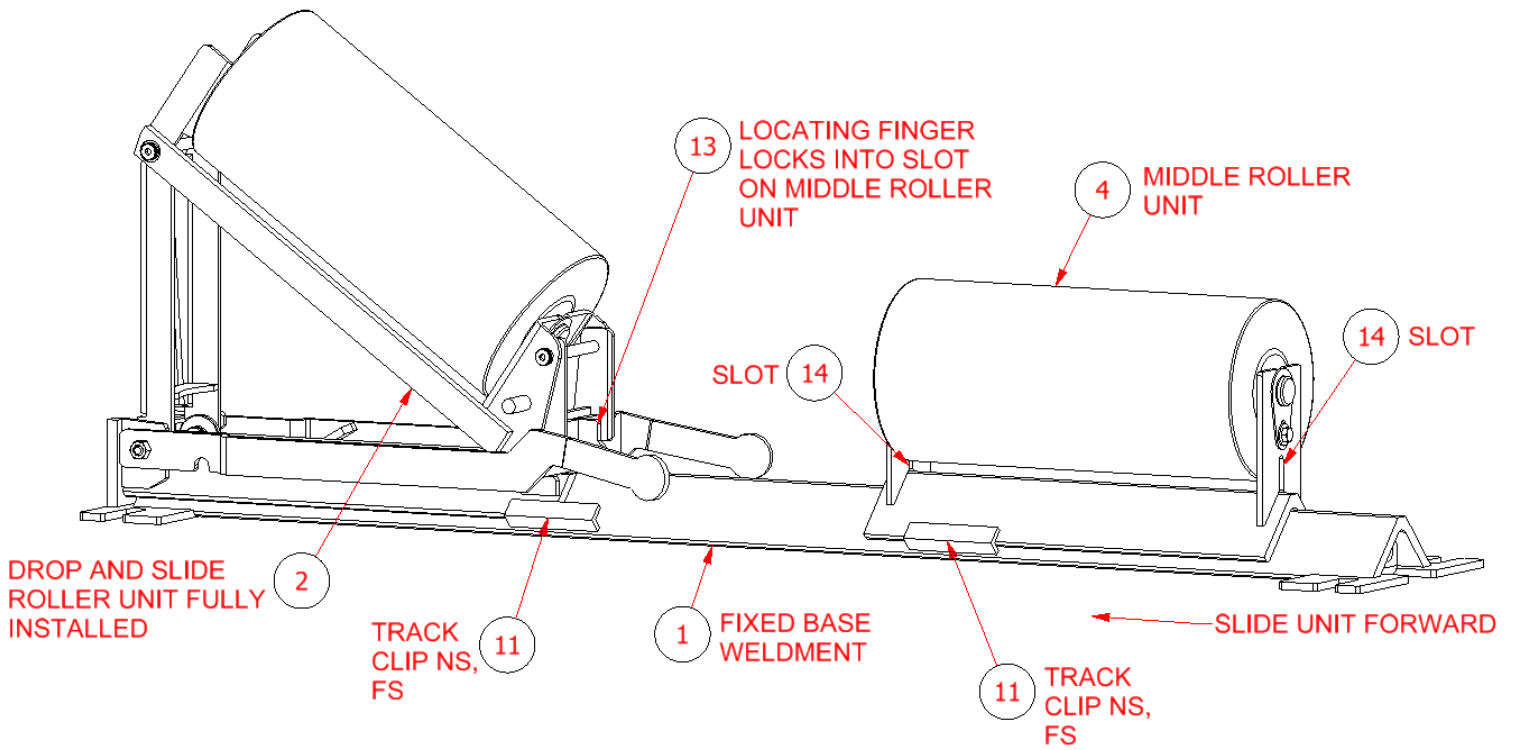
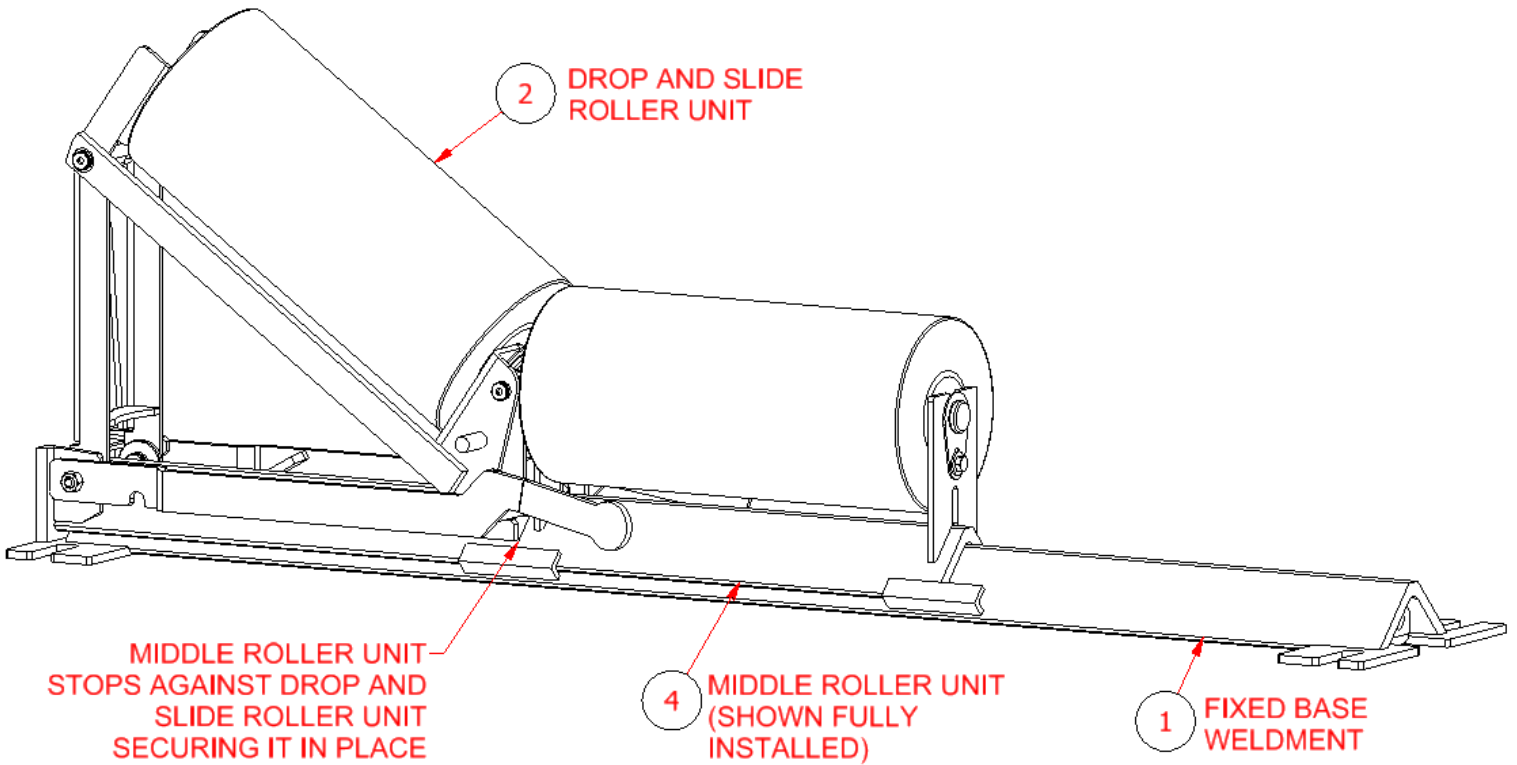

Figure 6
Figure 7
- With the Drop and Slide Roller Unit (2) fully installed, slide the Middle Roller Unit (4) onto the Fixed Base Weldment (1) and slide the unit forward until it stops fully against the Drop and Slide Roller Unit (2). See Figure 6 and Figure 7 below for illustration.